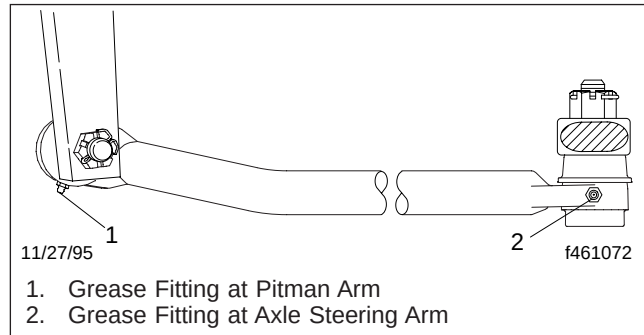

Fig. 5, Drag Link
1. Using a clean rag, wipe all dirt from both drag link grease fittings. See Fig. 5.